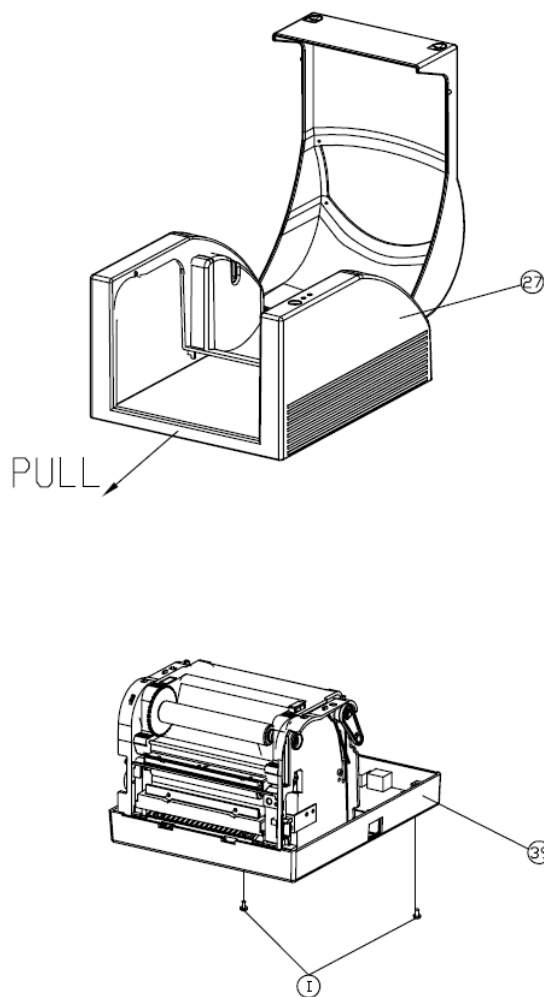

Figure 10.1.1
2. Remove the 2 screws (I) on the bottom of the printer (39).
3. Pull out the front side of the “Middle Cover” (27) then remove it from “Bottom” (39) as shown in Fig. 10.1.1.
4. Remove the “Middle Cover” (27).